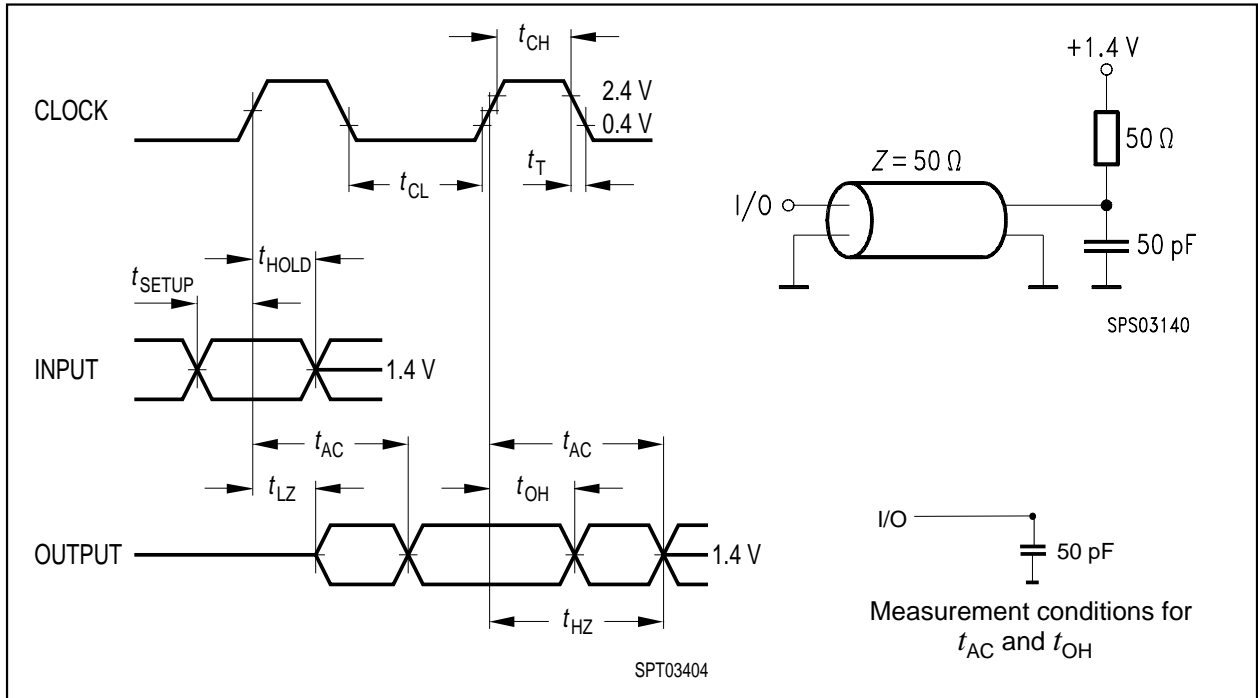

Figure 1
- AC timing tests for LV-TTL versions have $V_{IL} = 0.4\text{ V}$ and $V_{IH} = 2.4\text{ V}$ with the timing referenced to the 1.4 V crossover point. The transition time is measured between V_{IH} and V_{IL} . All AC measurements assume $t_T = 1\text{ ns}$ with the AC output load circuit shown in **Figure 1**. Specified t_{AC} and t_{OH} parameters are measured with a 50 pF only, without any resistive termination and with an input signal of 1 V/ns edge rate between 0.8 V and 2.0 V.